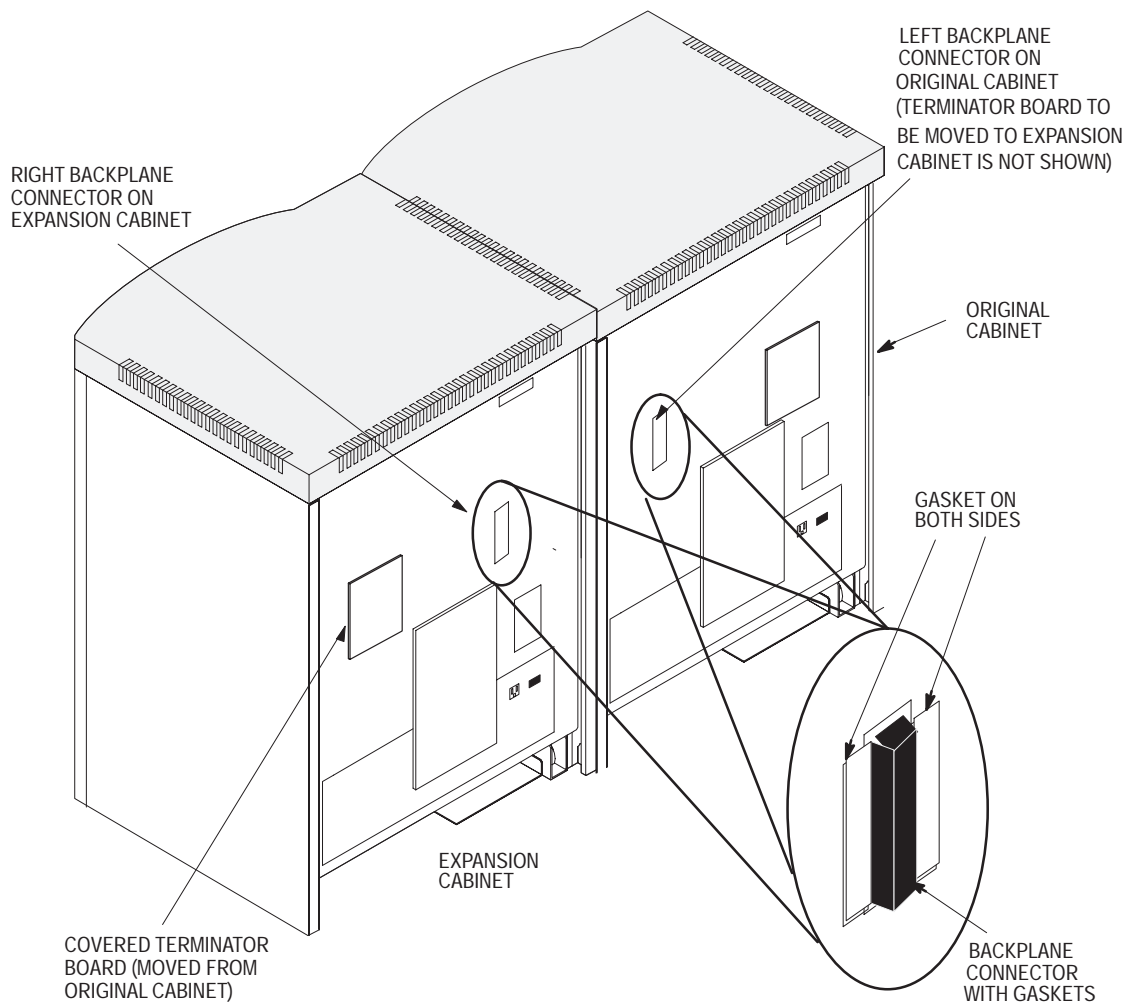

Figure 12-11. Rear View of Cabinets After Terminator Board Is Moved.
- a. Remove the sheet-metal cover that protects the original cabinet's left terminator board. (You will remove this board later.) Figure 12-11 shows the location of the left backplane connector into which the terminator board is currently plugged.
- d. Plug the terminator board into the expansion cabinet's left backplane connector. Tighten the slotted screw. Install the cover over the board. Figure 12-11 shows the location of the covered terminator board after it has been moved from the original cabinet to the expansion cabinet.
- e. Attach gaskets to the rear panels of the cabinets, on both sides of the original cabinet's *left* backplane connector, as shown in Figure 12-11. Each gasket should contact the connector housing. Repeat for the expansion cabinet's *right* backplane connector.